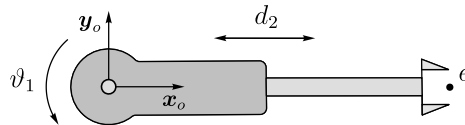

Figure 3: Polar manipulator.
3. Consider the robotic manipulator illustrated in Figure 3.